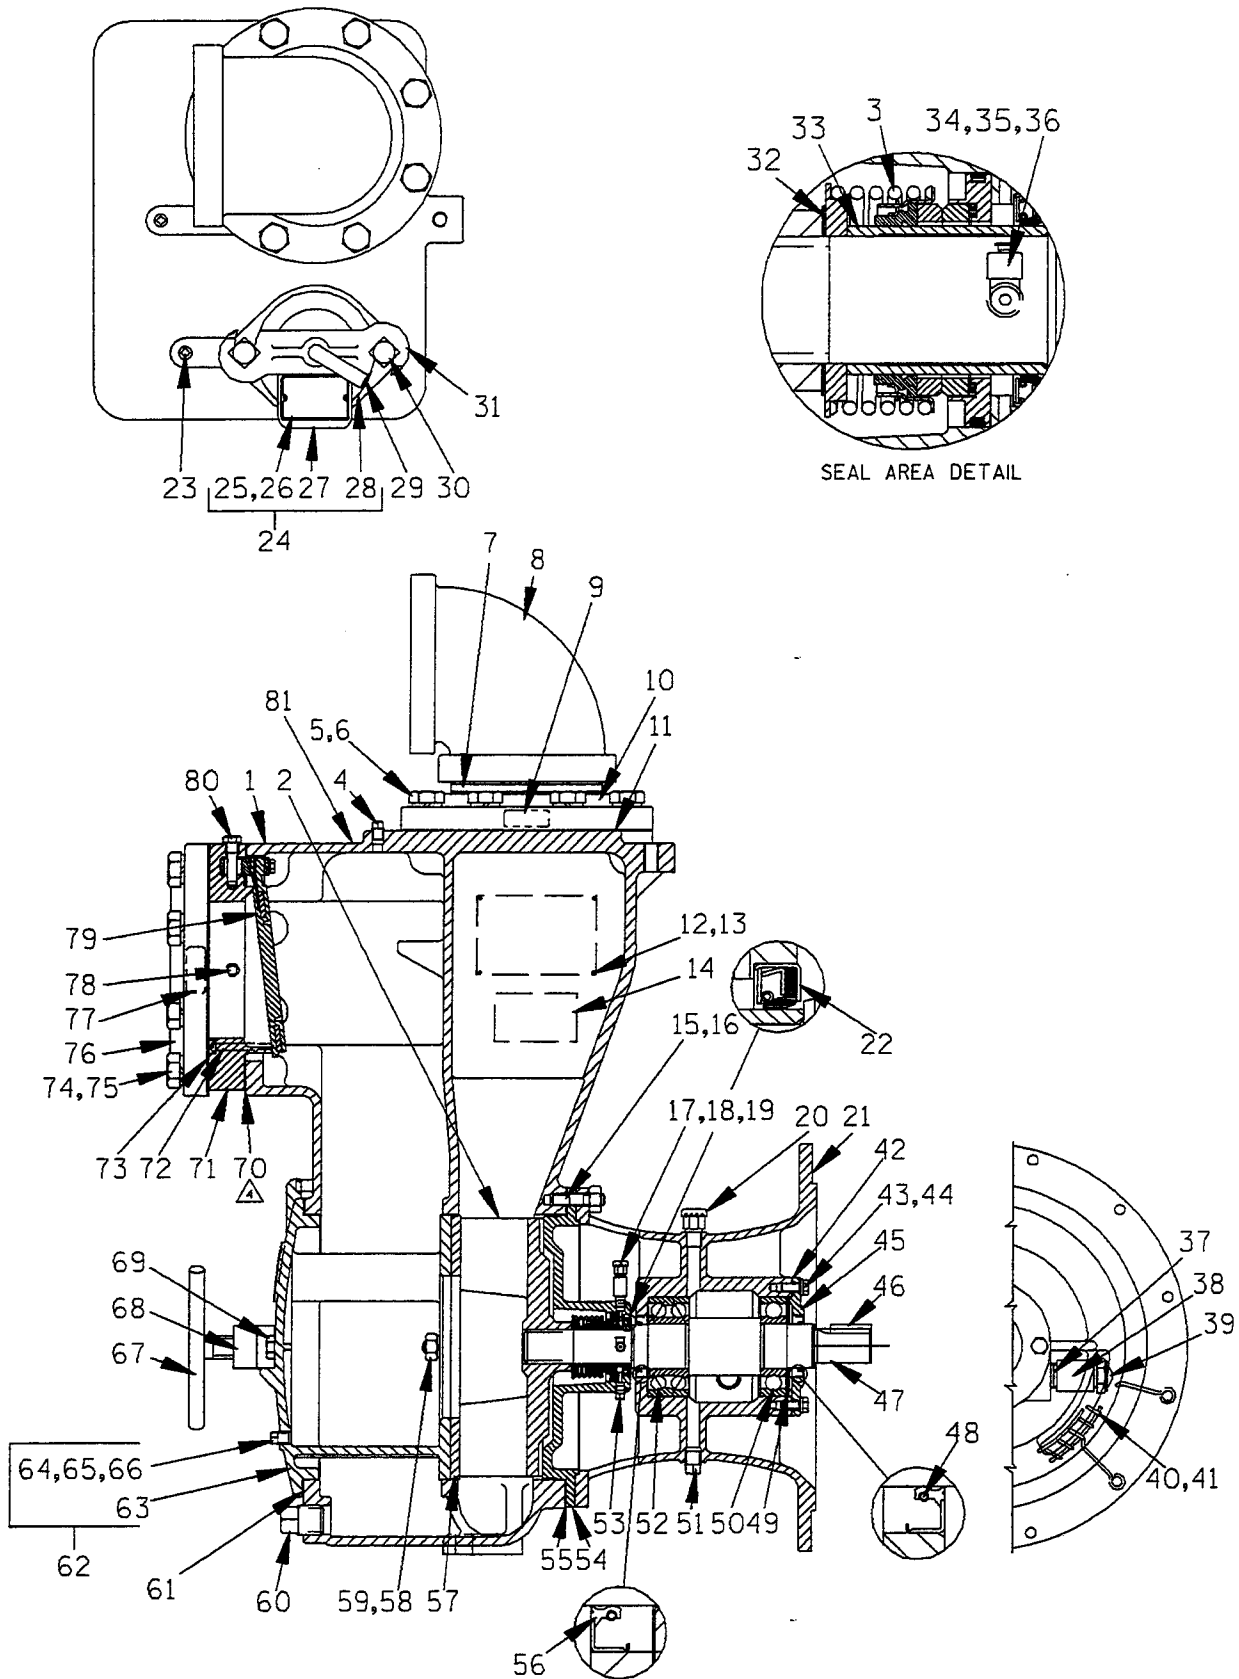

Figure 2. 16C20-(SAE 3/10) Pump End Assembly
(Figure 2)
If it is necessary to separate the intermediate and drive assemblies from the engine, support the intermediate using a hoist and sling, and remove the hardware (6 and 7) securing the intermediate to the engine bellhousing. Remove the intermediate guards (40 and 41, Figure 2), and separate the assemblies by pulling the intermediate straight away from the engine.
As the assemblies separate, the flexible portion of the coupling assembly (3) will remain on the shaft. To remove the coupling from the shaft, unscrew the two allen head setscrews from the bushing (2). Screw one of the setscrews into the puller hole on the circumference of the bushing. As the coupling and bushing separate, remove the bushing, and slide the coupling off the shaft. Remove the shaft key (46, Figure 2).